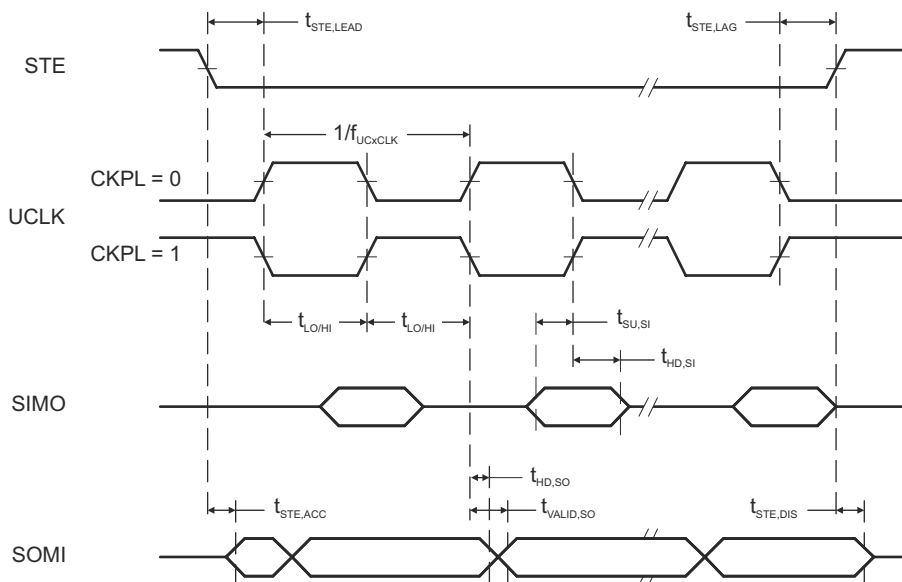
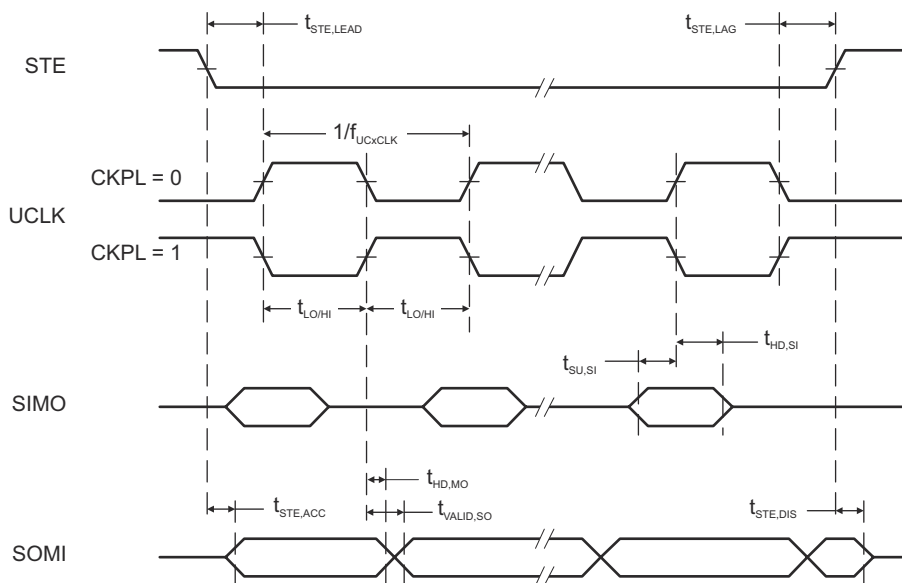

**Figure 8-13. SPI Slave Mode, CKPH = 0**
**Figure 8-14. SPI Slave Mode, CKPH = 1**
(see Figure 8-13 and Figure 8-14)
- (2) Specifies the time to drive the next valid data to the SOMI output after the output changing UCLK clock edge. See the timing diagrams in Figure 8-13 and Figure 8-14.
- (3) Specifies how long data on the SOMI output is valid after the output changing UCLK clock edge. See the timing diagrams in Figure 8-13 and Figure 8-14.